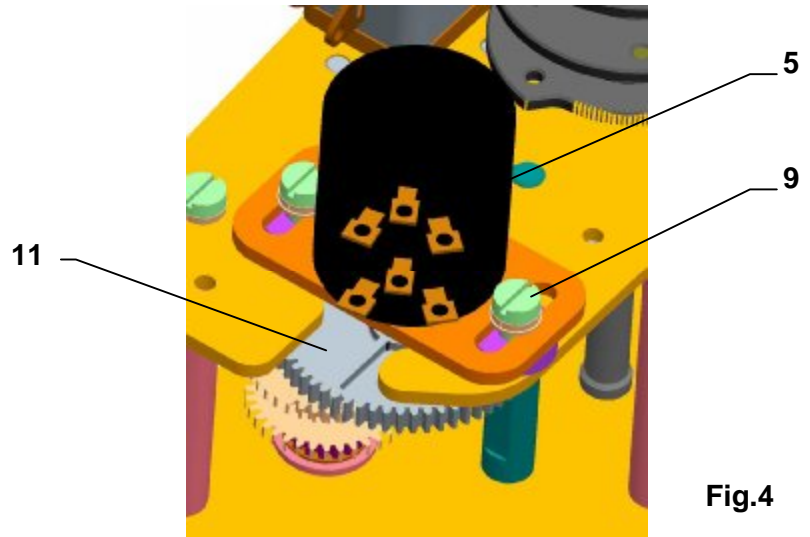

Fig.4
- in the version with a resistant transmitter (Fig.4) disengage the transmitter;
- loosen the nut (22) with simultaneous holding the central milled nut (23) and then loosen the nut (23) fixing the cams still having the belleville springs which create axial thrust;
- reset the EA to the "Open" position and rotate the cam (29) clockwise (when viewing the actuating plate from above) until switch S3 switches over (25);
- reset the EA by the angle where the "Open" position is to be indicated and turn the cam (31) clock-wise until switch S3 switches over (27);
- reset the EA to the "Closed" position and turn the cam (28) counter clockwise until switch S4 switches over (24);
- reset the EA back by the angle where the "Closed" position is to be indicated and turn the cam (30) counter clockwise until switch S6 switches over (26);
- once the EA is adjusted manually tighten the central milled nut (23) to lock the cams and tighten the lock nut (22) while simultaneous holding the milled nut;
- swing the position indicator discs (32) for the given operating stroke against the gauge mark on the top cover sight;
4.3 Adjustment of resistant transmitter (Fig.4)